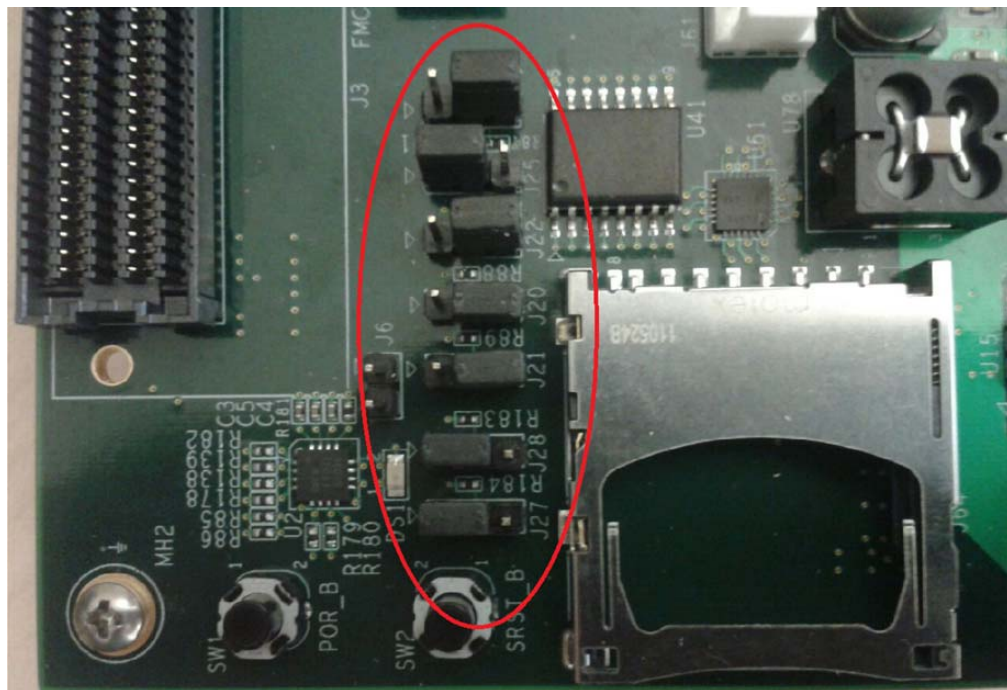

Figure 5-5: Jumper Settings for Booting Linux from QSPI Flash
1. After you program the QSPI Flash, set the Jumper settings on your board as shown in Figure 5-5. You'll need to set the following Jumpers: J20, J21, J22, J25, J26, J27, and J28.